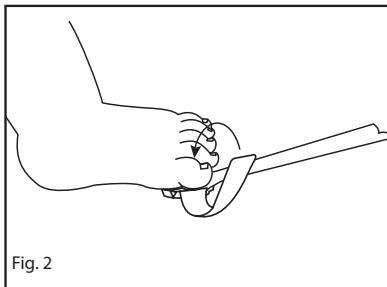

Fig. 2
3. Refer to **Fig. 2**. Ensure that the emitter window is positioned correctly. Wrap the attachment wrap around the great toe or thumb so the detector is opposite the emitter.